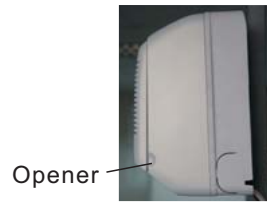

Fig. 1
1. Open the intake grille and pull it to the horizontal position. (Fig. 1)